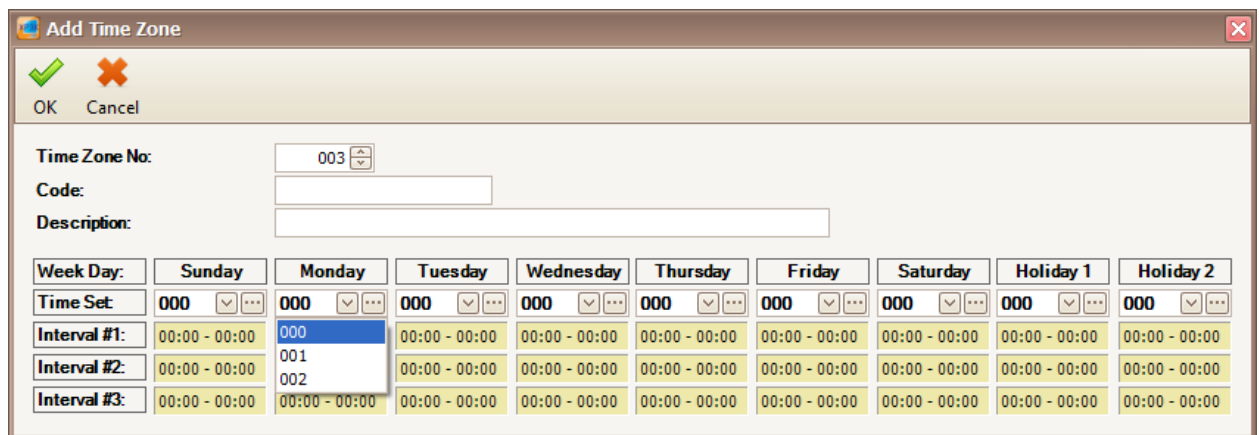

Figure 173 - Add Time Zone
- Click Add button to add new time zone (Refer **Figure 173**).